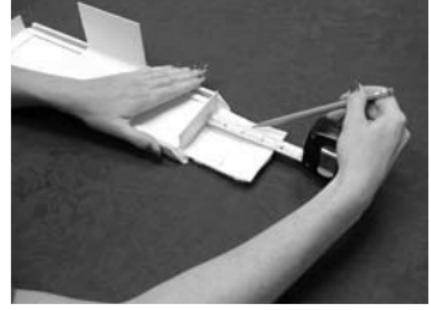

Figure C5
6. Center the Shirred Valance Insert on the valance. (See Figure C5)
7. Now that your Shirred Valance Insert is secure, turn the valance over. Starting on the right side, measure out from the end of the valance return connector 2" for an inside mount and 7" for an outside mount. Using a pencil, mark the back of the Shirred Valance Insert at this point. (See Figure C5)